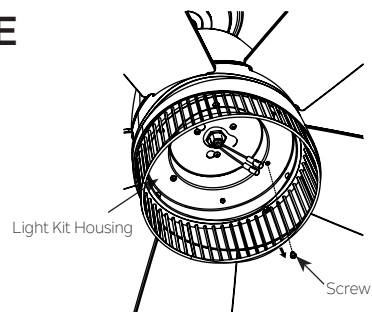

Fig. 21
Step 1. Remove one of three screws on the light kit housing and keep for later use, loosen the other two (do not remove). (Fig. 21)